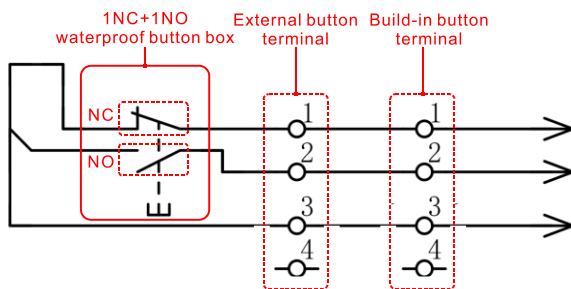

Figure3-36 External terminal wiring diagram
Step 4 Use the equipped external terminal for wiring (please see Figure3-36 for detailed wiring diagram). After wiring, plug the equipped external terminal to the internal terminal and tighten it